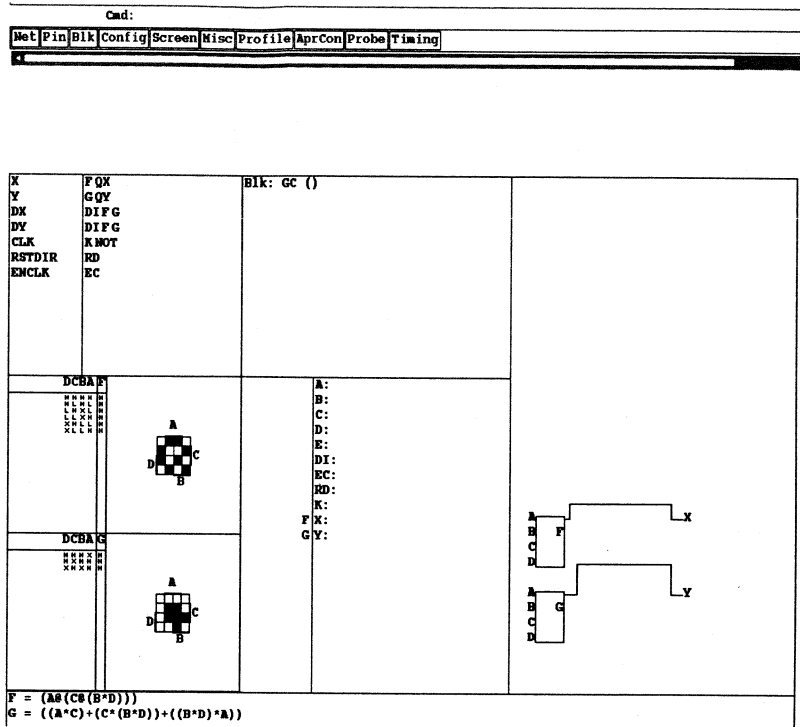

Figure 9-31 CLB Configured as mult2
3. Select **F** for X and **G** for Y from the Configuration Options area. Make sure block GC resembles Figure 9-31.